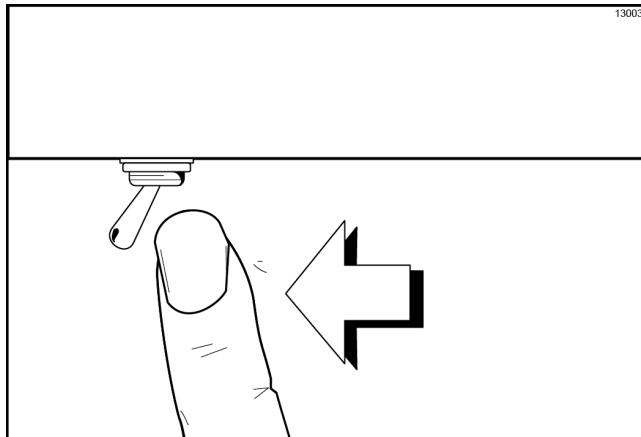

Figure-101
1. Make sure the power switch is in the OFF position. (See Figure-101.)